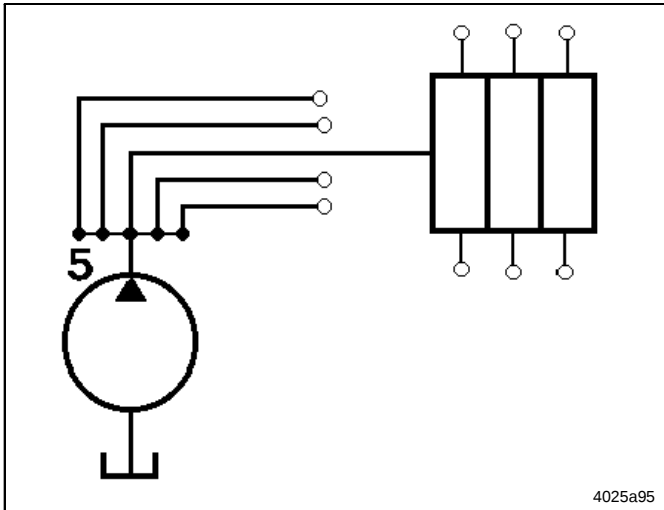

Fig. 46 Multi-line pump expanded by a progressive metering device
- Progressive metering devices can be used in two-line or single-line centralized lubrication systems in order to increase the number of outlets of multi-line pumps or to subdivide the single metering devices and measuring valves (fig. 46 to 50) also as secondary metering devices in large and small oil circulating systems.